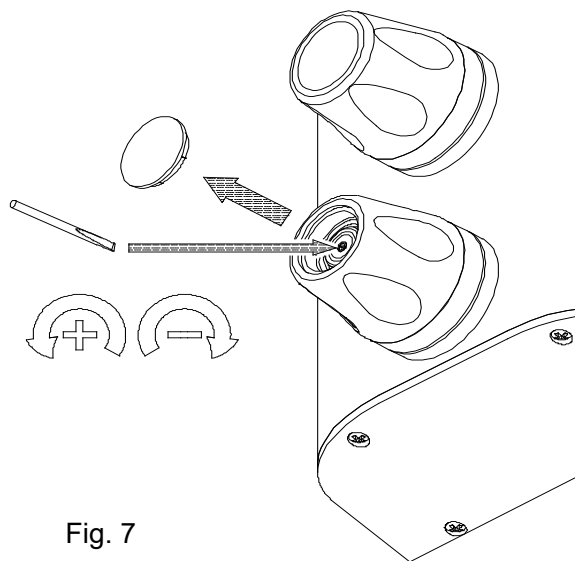

Fig. 7
2.3.5 To adjust the set maximum temperature, remove the temperature control cap (prize plastic ones off using a small screwdriver; or unscrew the metal ones - Horne tool 23-5459 or nitrile gloves are helpful for grip) and adjust the small, slotted screw in the centre of the spindle. Adjust the screw anticlockwise to increase the temperature, clockwise to decrease the temperature. See Fig. 7.